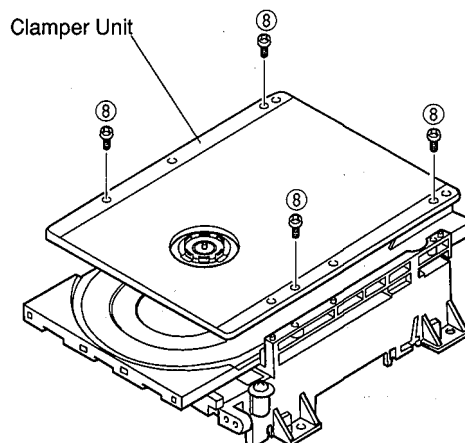

Fig. 4
- Remove 4 screws (⑧) and then remove the Clamper Unit. (Fig. 4)